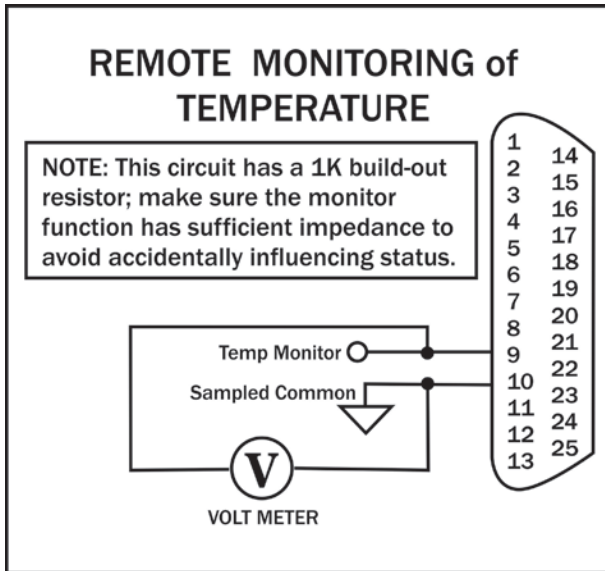

Figure 6.12 – Remote Monitoring of Temperature
**Method:** Connect a voltage meter to monitor the temperature at the heatsinks of the amplifier. Connect across PIN 9 (TEMP MONITOR) and PIN 10 (Sampled Common). See **Figure 6.12**.